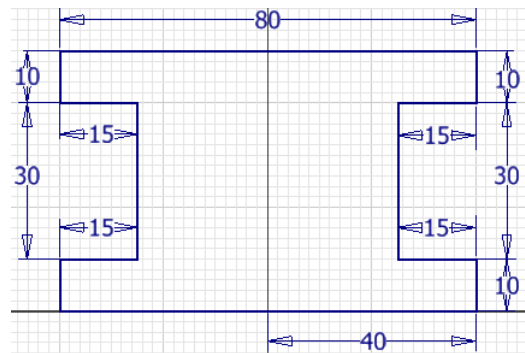

Figure 2-100(f) Dimensioning the sketch
9. Draw a rectangle using the **Two-Point Rectangle** tool, as shown in Figure 2-100(g).